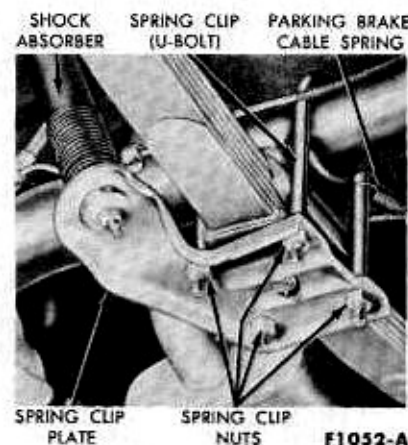

FIG. 14—Rear Spring Installation at Axle
2. Disconnect the parking brake cable spring (Fig. 14) from the outer spring clip.
1. Disconnect the shock absorber from the spring clip plate and the bracket on the underbody (Fig. 14).
on the shock absorber studs in the order shown in Fig. 14.